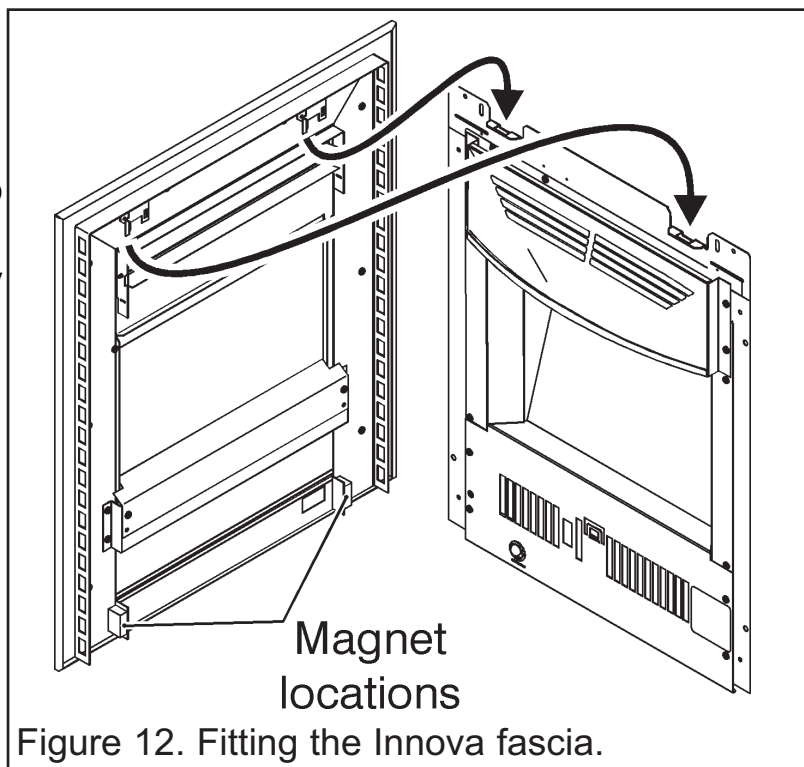

Figure 12. Fitting the Innova fascia.
2. There are two magnets on the lower rear of the fascia. They should rest against the outer edge of the two raised sections (See figure 12). Ensure that they are located correctly before fitting the fascia.
3. Hold the fascia firmly and lift into place. Keeping the magnets away from the body of the firefront, locate the fascia hanging brackets into those on top of the firefront (See figure 12). Lower the fascia into place and swing the bottom of the fascia towards the firefront to engage the magnets.